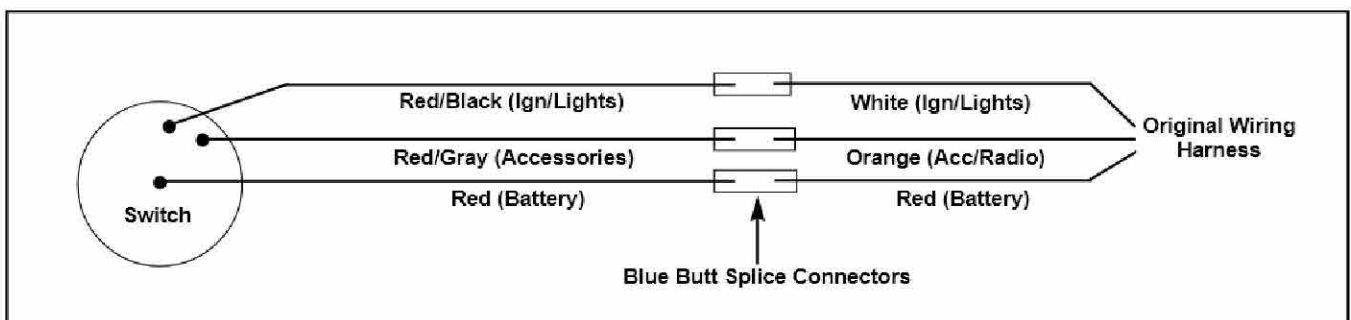

Figure 6. 1986-1992 FXRT/FXRD Models with Radio
3. See Figure 6. Switch must be spliced into existing wiring harness, approximately 3 in. back from original switch body using 3 small butt splice connectors (blue). Refer to Installing Wire Splicing section and related **WARNING** at the end of this instruction sheet.